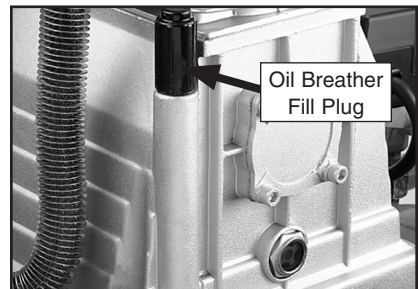

Figure 16. Oil breather fill plug.
5. Replace the oil drain cap screw and remove the oil breather fill plug shown in **Figure 16**.